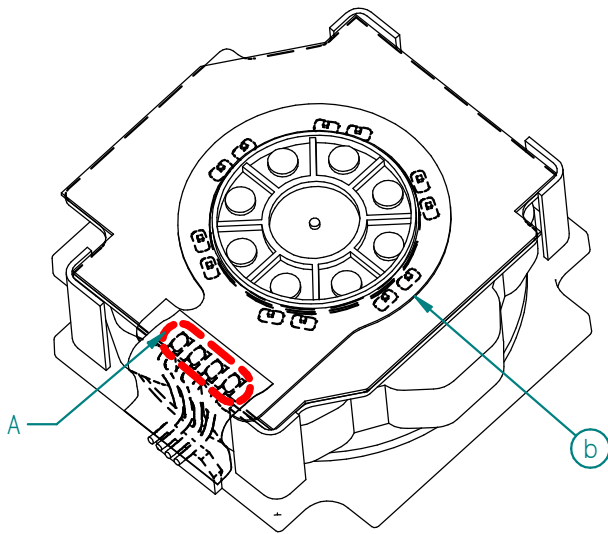

Fig 2.5
Step 2. Inspect pump circuit board area. Any solder leads or wiring protrusion over .078 in or 2mm should be trimmed before installing pump heatsink. Areas where solder leads should be inspected and or trimmed are marked with A and B in Fig 2.5. A small set of side cutters can be used to snip away any long solder protrusions. A small file can likewise be used to file down solder protrusions. If any solder joint contacts inside of heatsink it will need to be filed or trimmed.